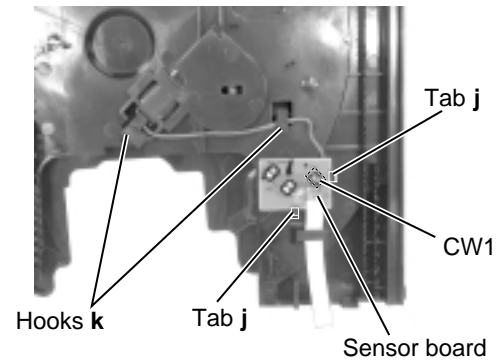

Fig.32
■ Removing the sensor board / the tray motor (See Fig.32 to 34)